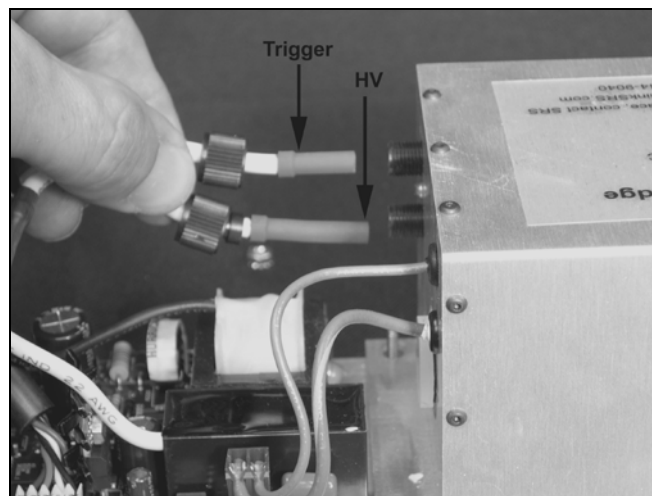

Figure 24. Identify the trigger and HV leads.
8. Identify the trigger and HV leads coming from the board transformers. As shown in Figure 24, the trigger lead is the shorter of the two, and connects to the upper female high voltage connector on the laser cartridge.